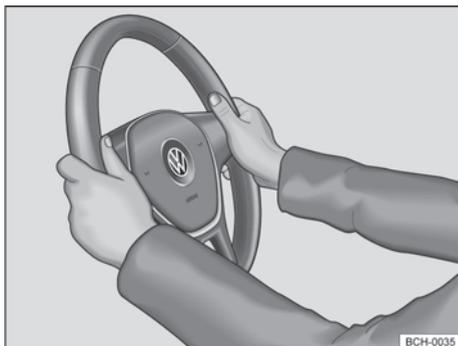

Fig. 60 On the steering wheel: 9 o'clock and 3 o'clock positions.
- Adjust the steering wheel position in order to be able to hold it by its outer rim *in 9 o'clock and 3 o'clock positions* → Fig. 60 with both hands and slightly flexed arms.
- Always firmly push the lever ① upwards by the handle after adjusting, to secure the steering wheel in place.
- While driving, always keep both hands on the rim of the steering wheel, at the *at the 9 o'clock and 3 o'clock positions* → Fig. 60, to reduce the risk of injury in case the driver front airbag is deployed.